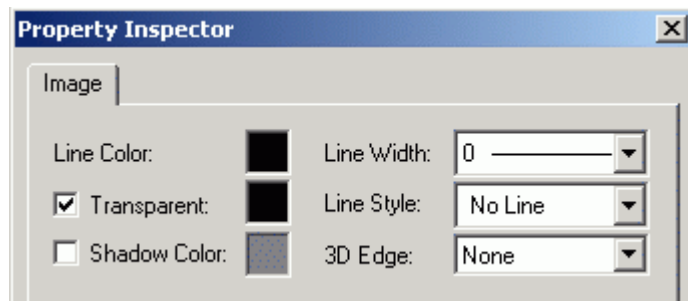

Figure 5.22. Making a Transparent Bitmap
- Double-click on the bitmap image of the meter to open its **Property Inspector**. Check the **Transparent** check box, as shown in **Figure 5.22**, thereby making anything blue in the bitmap invisible and creating an irregularly shaped bitmap. Click **OK** to save these changes.